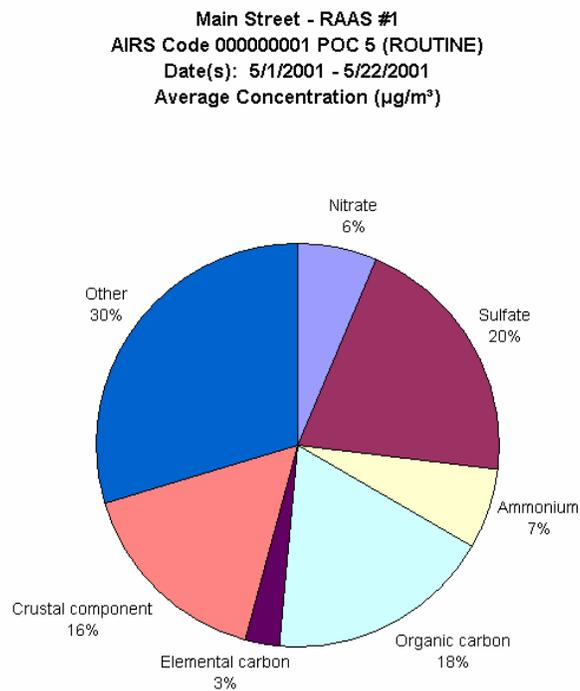

Figure 5-10. Pie chart generated by the species distributions analysis.
- Pie Chart (Figure 5-10). Averaged data are presented as a pie chart, along with percentages.